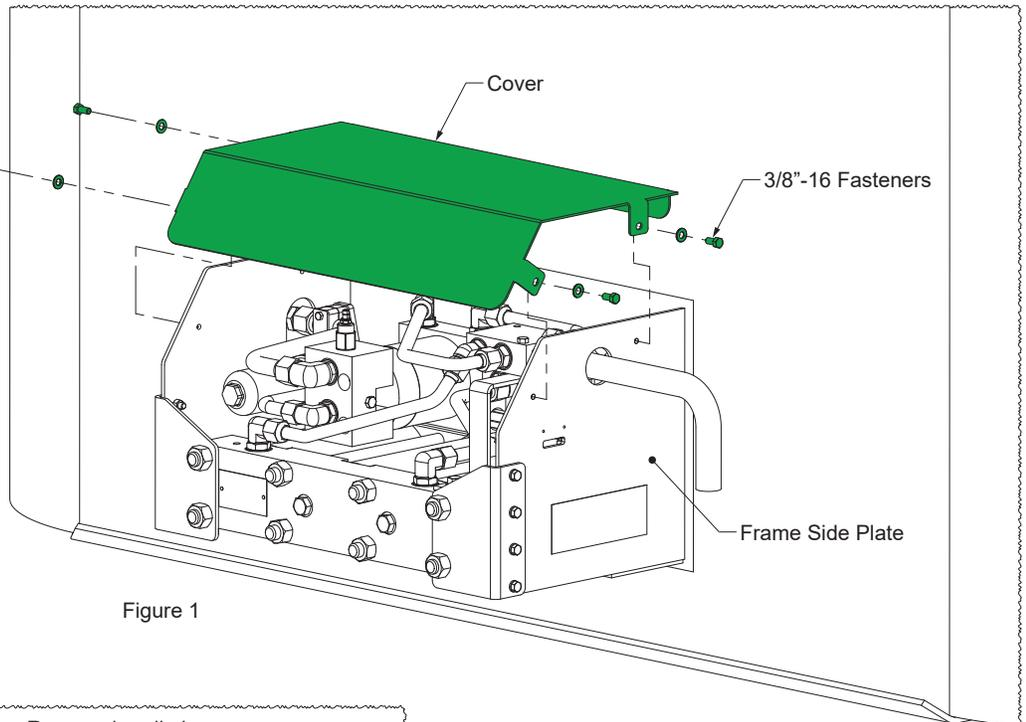

Figure 1
There are four (4) 3/8"-16 screws with lock washers securing the cover to the frame side plates. Remove these screws to release the cover (fig. 1).